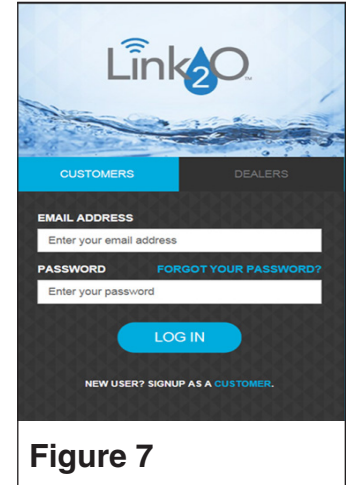

Figure 7
1. New users will need to create an account to control their pool system with IntelliConnect. This can be done through the hyperlink at the bottom of the login page. See **Figure 7**.
2. Log in as a customer via the Link₂O client. See **Figure 7**.